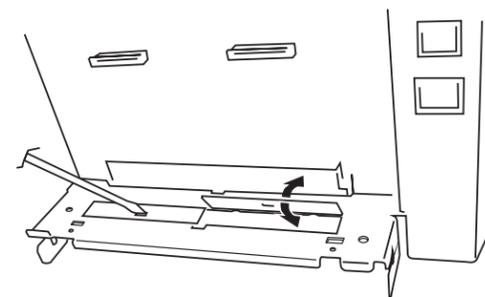

Figure 4.6 Remove cover plates
2. Remove the two blanking plates (figure 4.6), using a screwdriver to bend them backwards and forwards, until they snap.